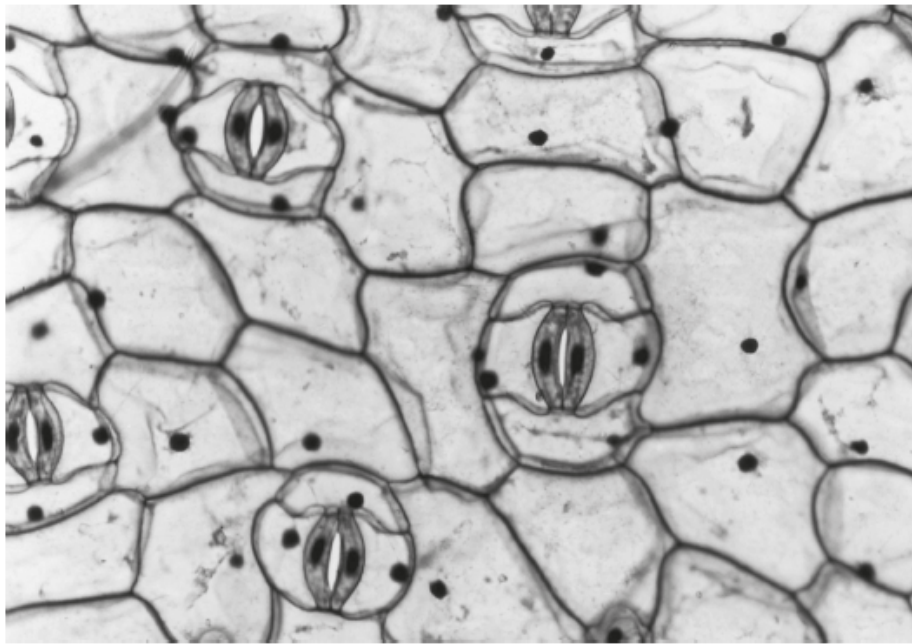

Fig. 3.1
- (b) Fig. 3.1 is a photomicrograph showing the epidermis of a plant.
The actual area of the epidermis visible in the photomicrograph in Fig. 3.1 is 0.04 mm^2 .
The leaf from which Fig. 3.1 is taken has a total surface area of 2000 mm^2 .
- (i) Use Fig. 3.1 to estimate the total number of stomata on the leaf.